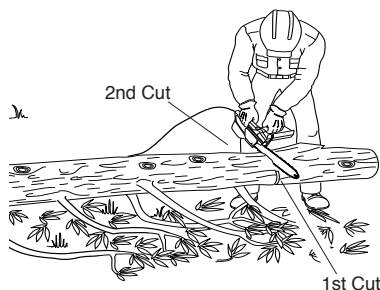

Figure 13 - Bucking Log When Log Is Supported On One End
1. Make first cut on underside of log (see Figure 13). Use top of guide bar to make this cut. Cut 1/3 through diameter of log. This cut will keep section from splintering when cut.